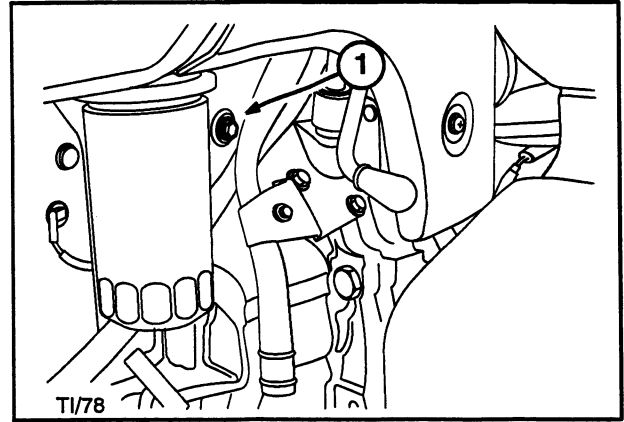

Figure 1-1-3
The cooling system incorporates a drain plug (1), Figure 1-1-3, on the left hand side of the cylinder block. The system pressure cap is located on the header tank. The cap on the radiator is a blanking cap and should not be removed unless refilling the system from empty. Normal topping up should occur at the header tank.